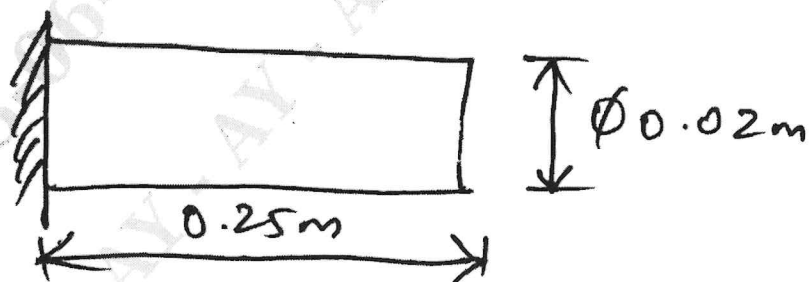

Fig. Q10 (b)
b. Evaluate Eigen value of longitudinal vibration of the constrained uniform bar shown in Fig. Q10 (b). Take minimum two elements. Take $E = 210 \text{ GPa}$ and $\delta = 7860 \text{ kg/m}^3$. (10 Marks)